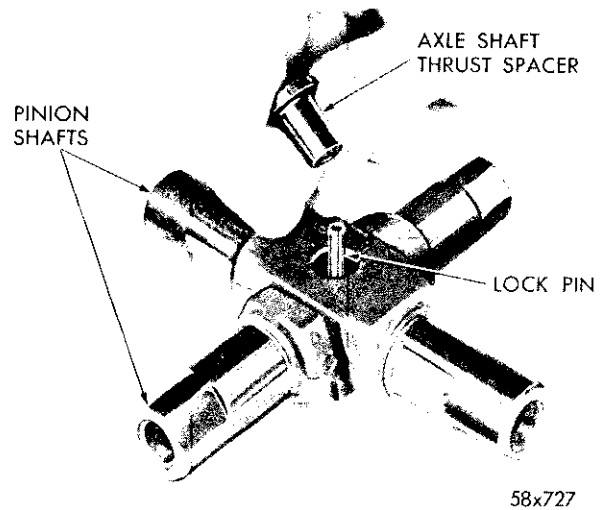
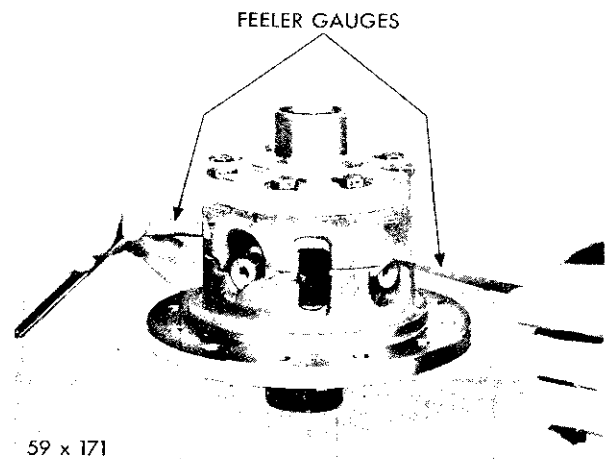

Fig. 45—Installing Axle Shaft Thrust Spacers
Fig. 46—Checking Clearance Between Pinion Shafts and Case
- (3) Place aligning pin through one axle shaft thrust spacer. Assemble pinion shafts on aligning pin.
- (4) Place the pinion gears on shafts and install the assembly on drive gear half of case. Insert thrust spacer in the pinion shaft (Fig. 45).
- (5) Slide cap half of case over edge of bench far enough to insert one finger up through the assembly to hold it together. Place assembly on drive gear half, matching the scribe marks.
- (6) Install cap attaching bolts. Tighten lightly, to seat cap on case. Check the assembly for free turning of differential gears and both side gears. If tight, the side gear retainers may not be meshed through all clutch discs. When both the side gears turn freely, tighten bolts to 55 foot-pounds for left hand thread.
- (7) With differential resting on one hub, insert two feeler blades, one over each end of the pinion shaft having ramps above it (Fig. 46). Clearance should not exceed .020 inch at each end of shaft.